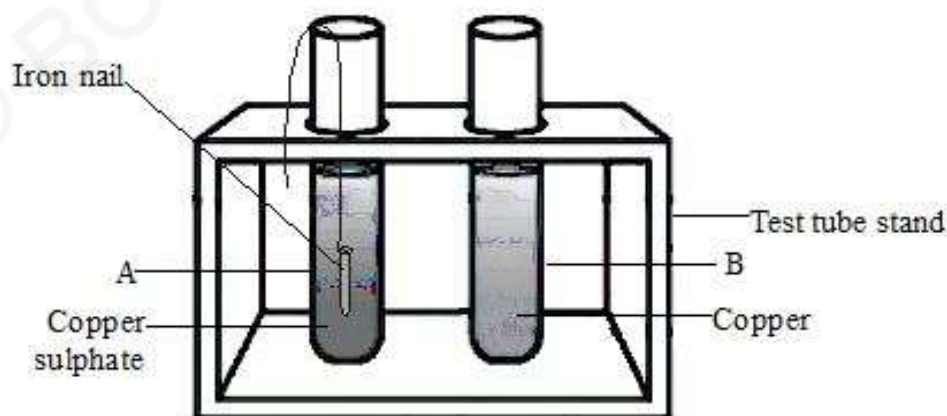

Fig. 4.7. Iron displaces copper from Copper sulphate solution
- ☞ Tie a thread on one iron nail and suspend it in test tube A. (Fig 4.7)